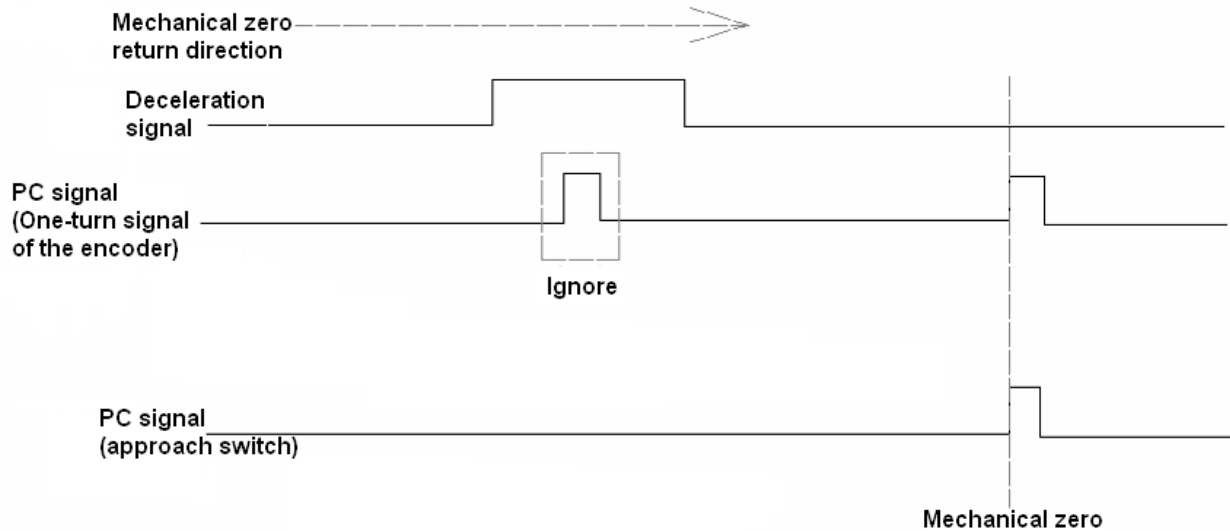

Fig. 2-8 PC signal waveform
- a) The user should provide the wave of PC signal, which is shown as the following figure 2-8: